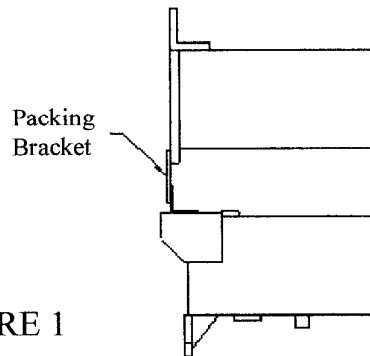

FIGURE 1
2. Remove the 1/2" bolts from the packing bracket (Figure 1) which hold the two legs together. Remove the top leg.